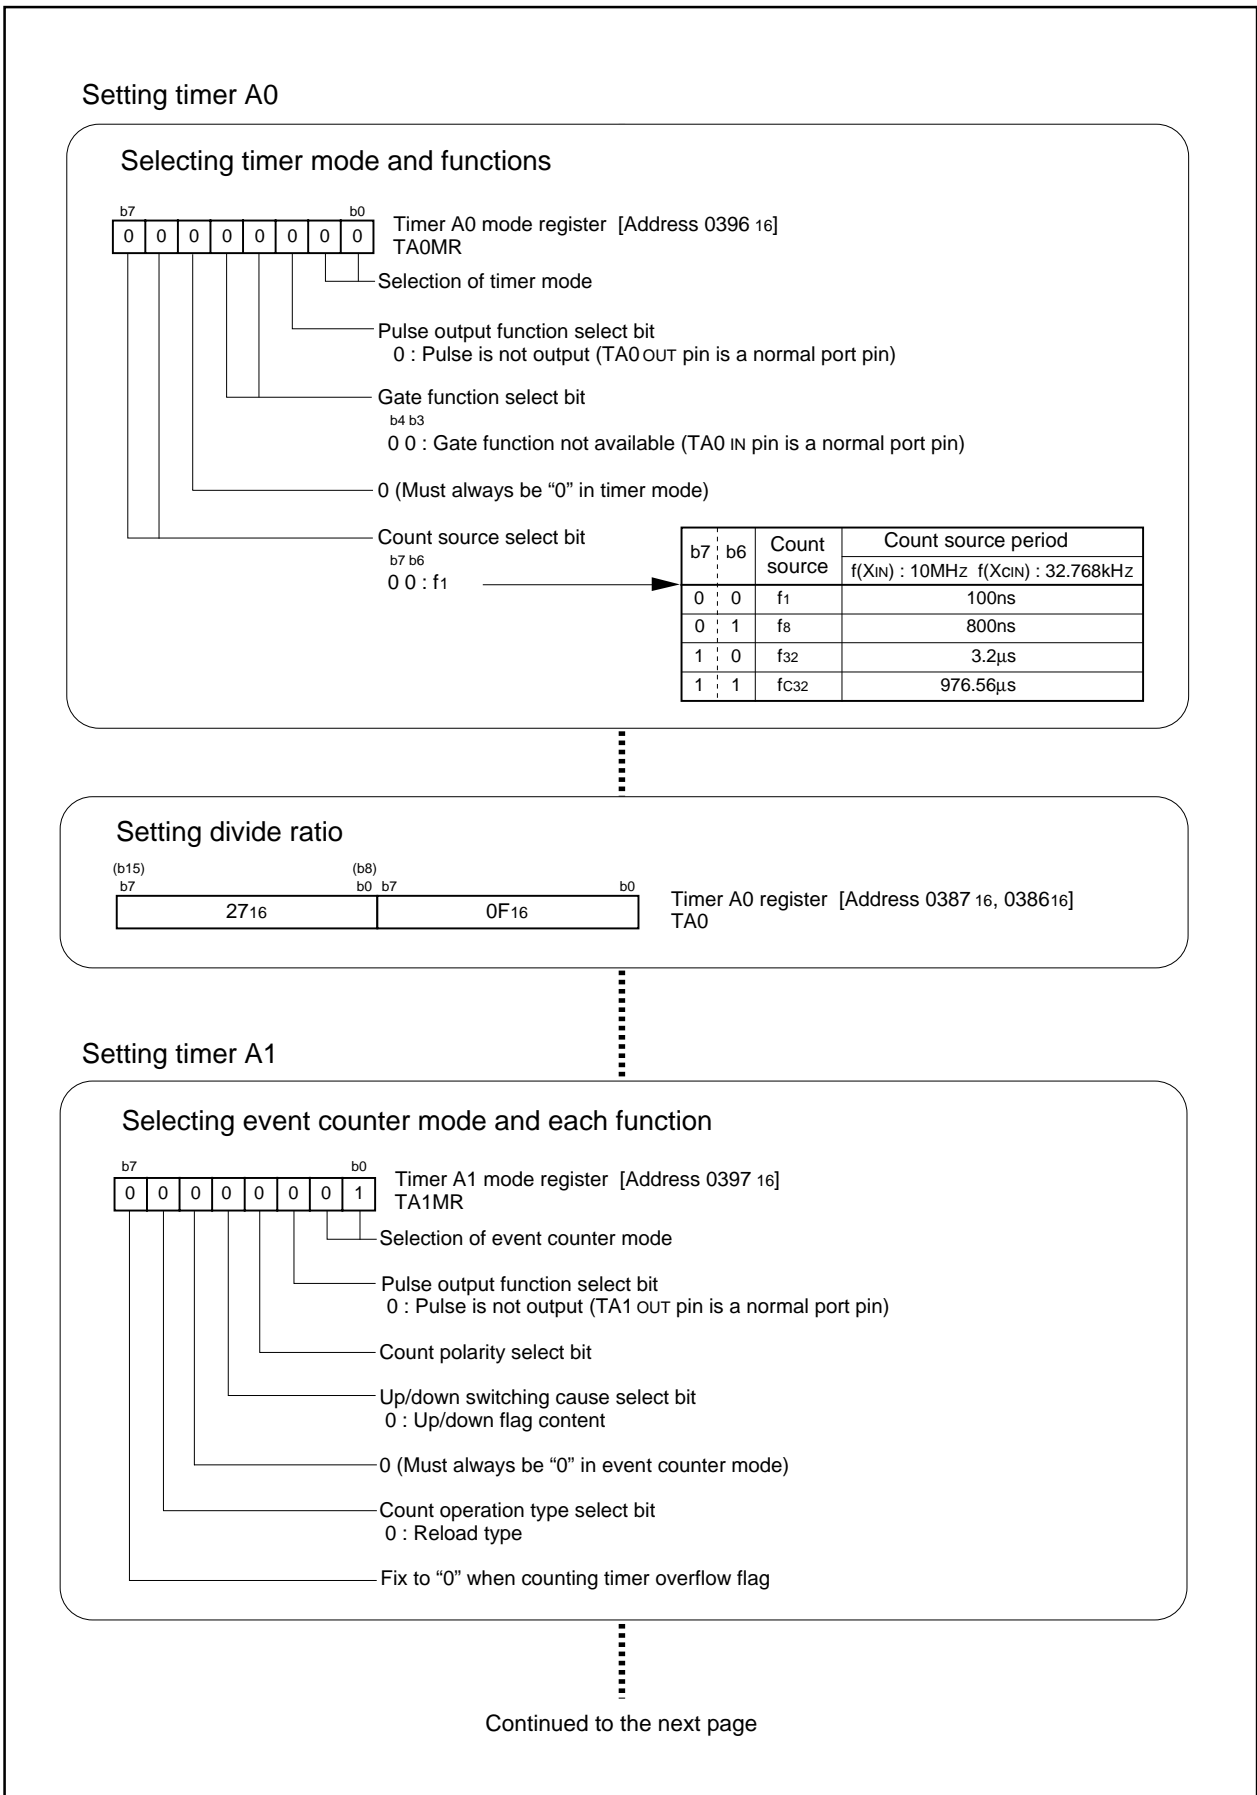

Figure 3.1.3. Set-up procedure of long-period timers (1)
**Overview** In this process, Timer A0 and Timer A1 are connected to make a 16-bit timer with a 16-bit prescaler. Figure 3.1.1 shows the operation timing, Figure 3.1.2 shows the connection diagram, and Figures 3.1.3 and 3.1.4 show the set-up procedure.